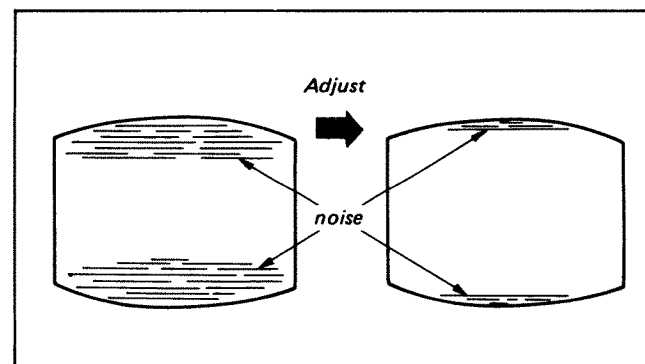

Fig. 4-16. Fast play noise position adjustment
- (1) Record the telecast signal in the β II mode.
- (2) Set the TRACKING knob to its center detent position.
- (3) Play back the recorded portion with FAST PLAY button depressed.
- (4) Adjust RV9 so that noise disappears on the monitor screen. (See Fig. 4-16.)